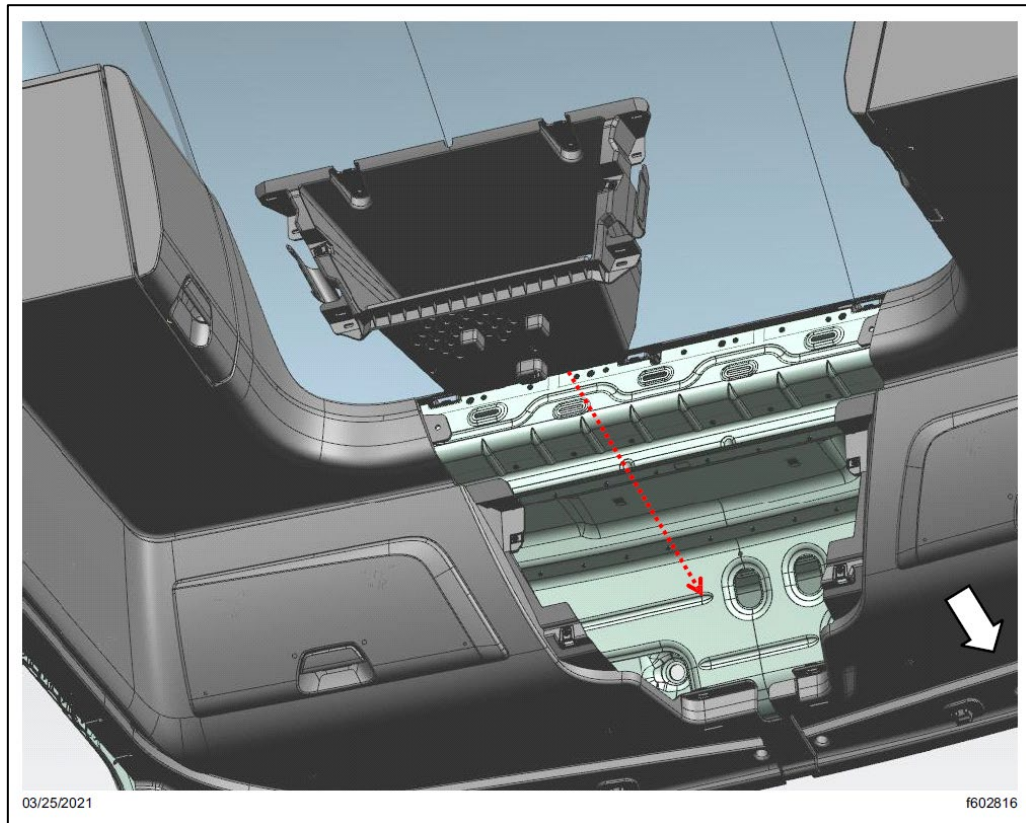

Fig. 62, Snap the Center Storage Bin into Position
- 14.1. Snap the center storage bin into position between the LH side and RH side overhead storage assemblies. See Fig. 62.